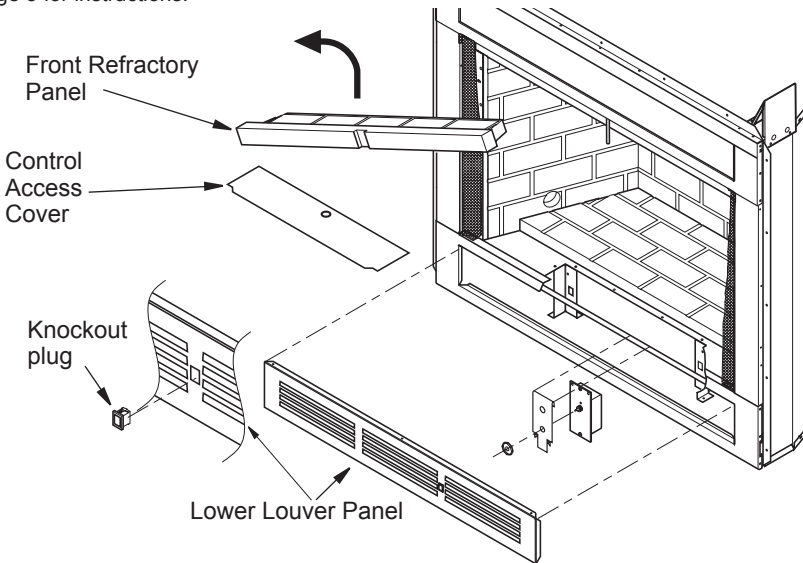

Figure 1: Accessing Blower Compartment (Controls Not Shown for Clarity) B-vent, Wood and Vent-Free Models
The BK blower can be installed in wood burning, B-vent and vent-free model fireplaces. Both the BK and BKT blowers can be installed in direct-vent model fireplaces. Blowers are installed by accessing the blower compartment through the lower louver panel or, on some models, through the control access cover under the front refractory panel (see Figure 1). The lower front louver panel can be removed easily, see *removing louver panel*, page 3 for instructions.
For models other than direct-vent, remove panel or stamped face louver by snapping out the front with a flat blade screwdriver (see Figure 1, page 2). Use caution not to scratch any surfaces. These panels can also be removed by inserting fingertips between slots and gently pulling out. **DO NOT FORCE**. The panels are actually held in place by means of a retention dimple embossed on the edge of the panel. To reinstall, place louver into cavity and push gently.
- Remove knockout plug from louver panel by depressing top and bottom retaining clips (see figure 1, page 2).
- Remove knockout plug from louver panel by depressing top and bottom retaining clips (see Figure 1, page 2).